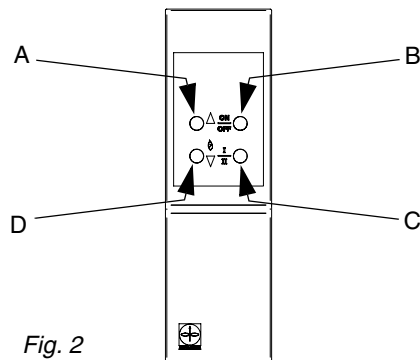

Fig. 2
By using the remote control (Fig. 2) it is possible to switch between high and low fire.
- If the control unit Step 2 is connected to the gas fire unit, high level can be activated from the remote control (Fig. 2-C)